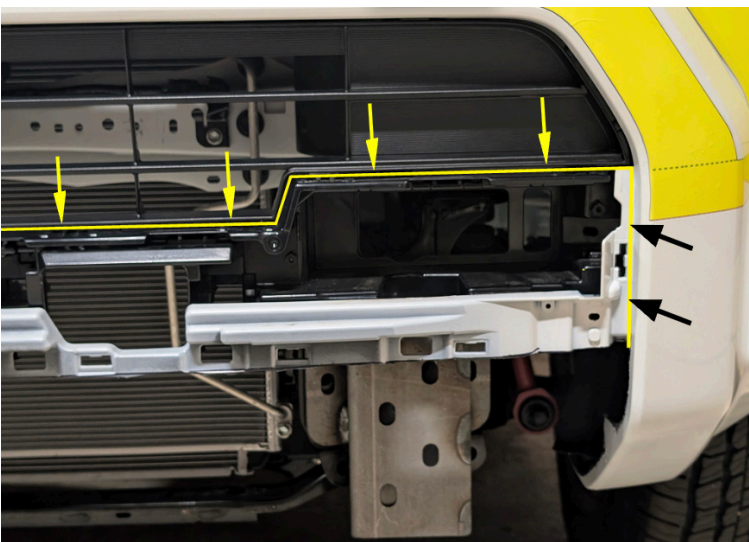

Figure 37
26. Cut the center section of the front bumper along the fog light profile. Cutline shown below in Figure 37. (Figure 37-38)